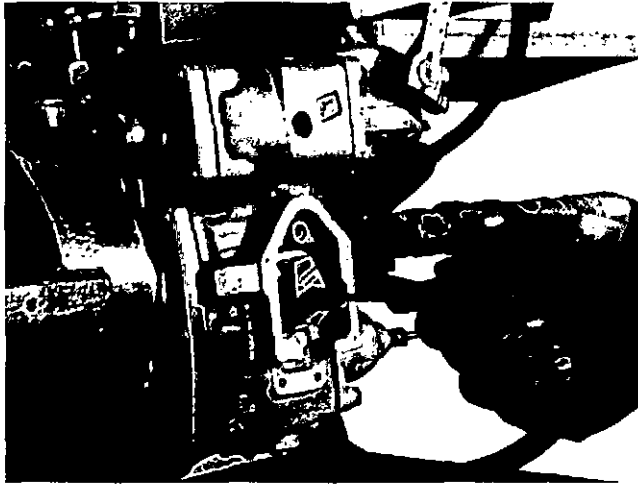

Fig. 10-35, (F5343). Adjust the fuel adjustment screw inside the throttle shaft.
Adjust the fuel adjustment screw inside the throttle shaft, Fig. 10-35.
5. Turn in the fuel adjustment screw in the automotive throttle shaft until it is the value on line 15 in the calibration table, Fig. 10-35.